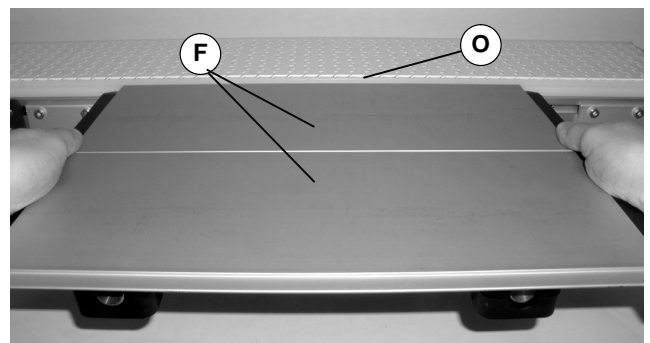

Figure 18
2. Pull table (F of Figure 18) away from conveyor (O) about 1/2" (13 mm).